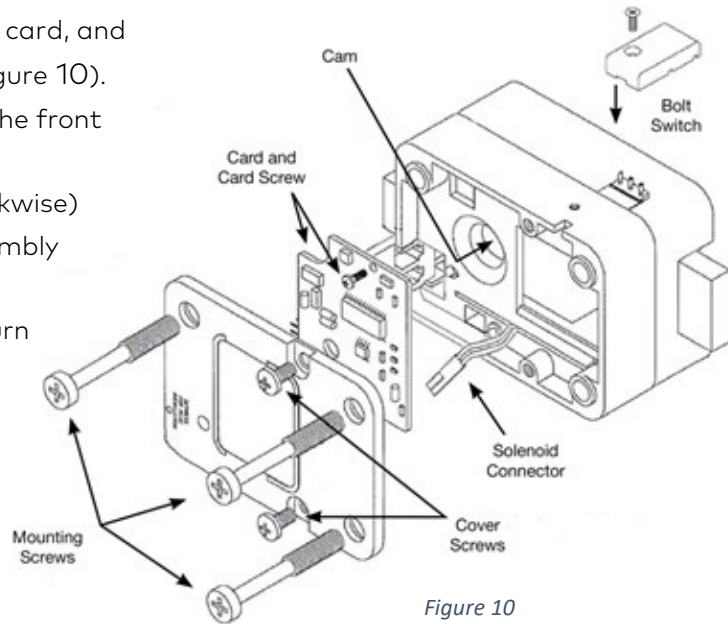
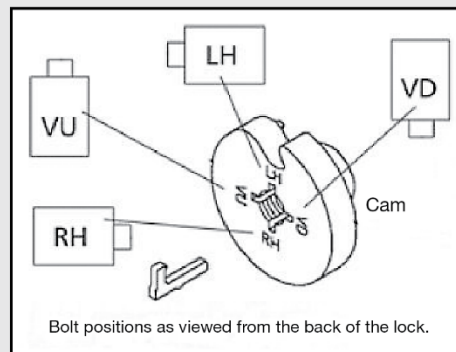

Figure 10
Figure 11
8. Remove the two cover screws from the back cover of the lock assembly, and remove the lock back cover (Figure 10).
9. Carefully unplug the solenoid connector from the system card. (If applicable, unplug the bolt switch connector from the system card.) (Figure 10)
10. Remove the mounting screw from the system card, and gently lift the system card out of the case (Figure 10).
13. Next, rotate (counterclockwise) at least 1/2 turn until the groove in the spindle is aligned with the correct spline position. The correct spline position for the installation orientation showing in Figure 10 is RH (for a "Right Hand" door). Refer to the following **Spline Key Position Chart** (Figure 11) for all mounting positions.